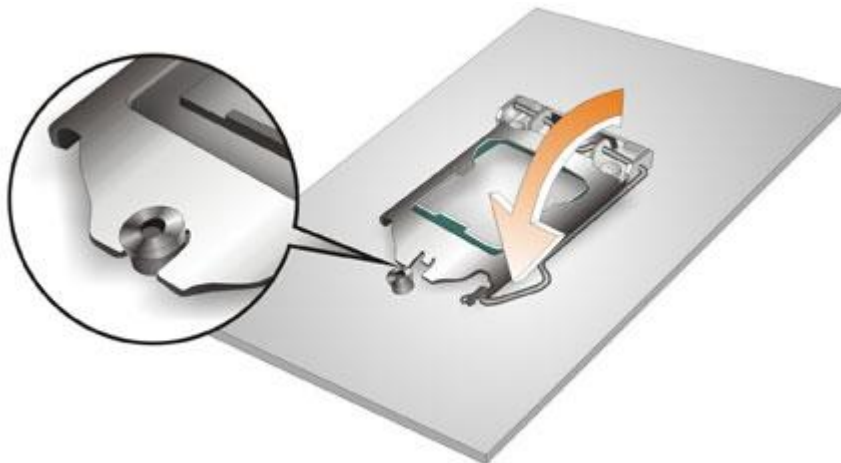

Figure 4-4: Close the Socket LGA1200
Step 8: **Close the CPU socket.** Close the load plate and pull the load lever back a little to have the load plate be able to secure to the knob. Engage the load lever by pushing it back to its original position (**Figure 4-4**). There will be some resistance, but will not require extreme pressure.